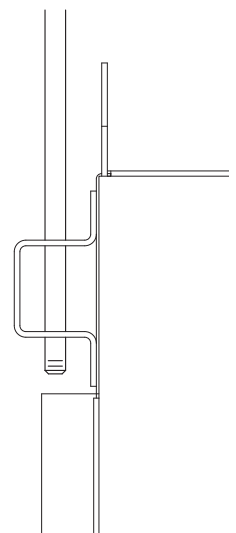

Figure 1
To hang the ERM, use the brackets shown in Figure 1 to secure the ERM. These brackets are designed for 3/8 in. threaded hanging rods.
3. Use the brackets as shown in Figure 1 to secure the ERM. These brackets are designed for 3/8 in. threaded hanging rods.